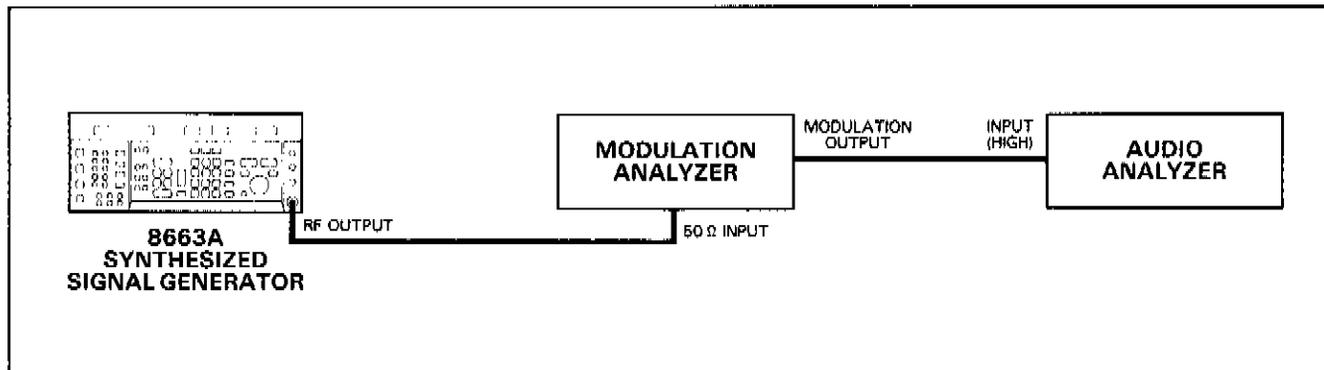

Figure 4-2. Operation Verification Modulation Accuracy and Distortion Test Setup.
8. Connect the instruments as shown in Figure 4-2 and apply power.